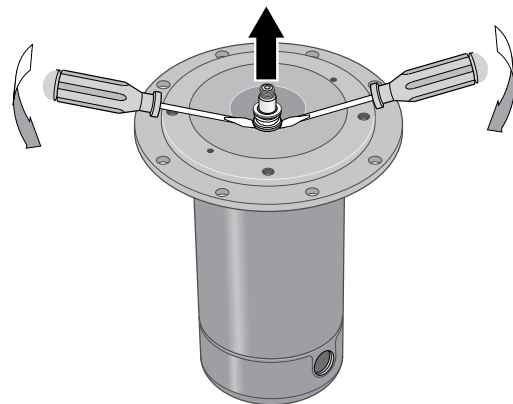

Figure 17 – Remove Seal Plate
3. Remove rotating half of seal by placing two screwdrivers under seal ring and **carefully** prying up (Figure 17).